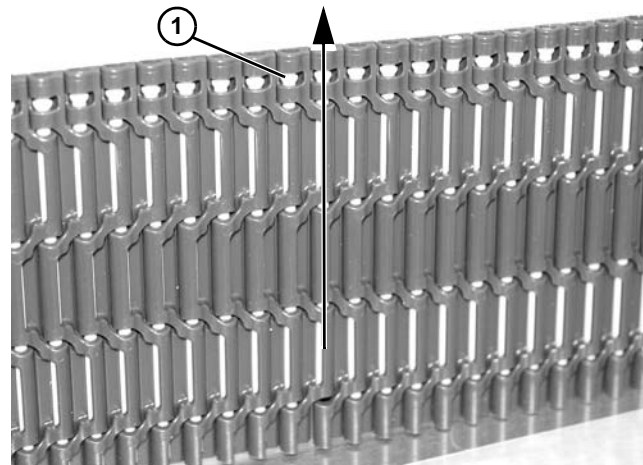

Figure 149
Note that head of pin (Figure 149, item 1) should be removed in direction shown.